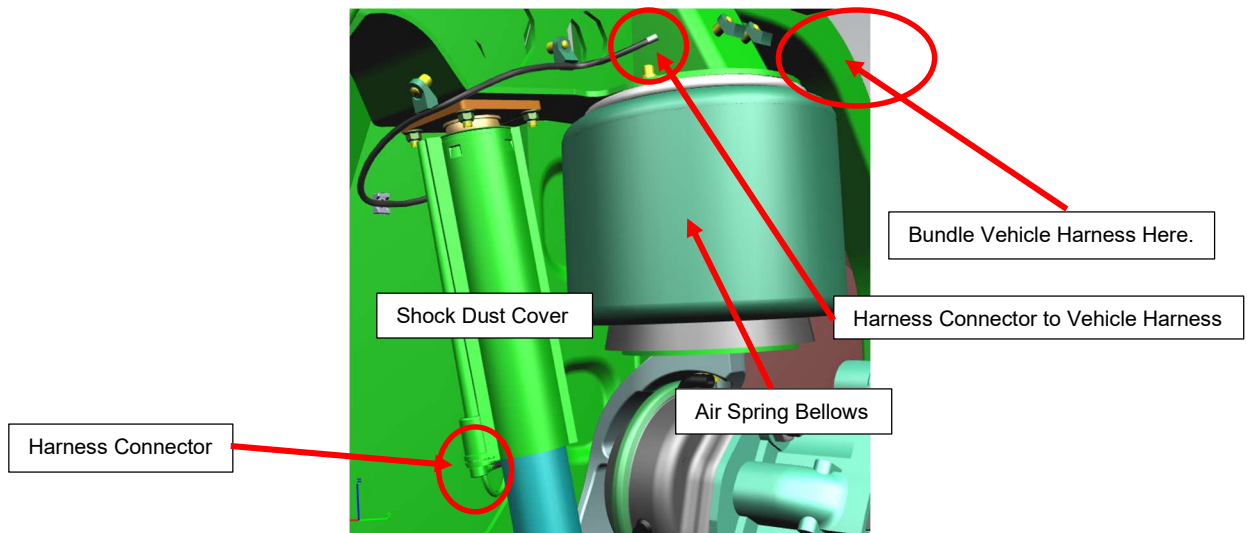

Figure 9: Curbside Shock Sensor Harness Routing.
- Lock the dust covers on the shock absorbers so that the molded plug on the sensor harness faces the rear of the vehicle as seen in Figure 9.